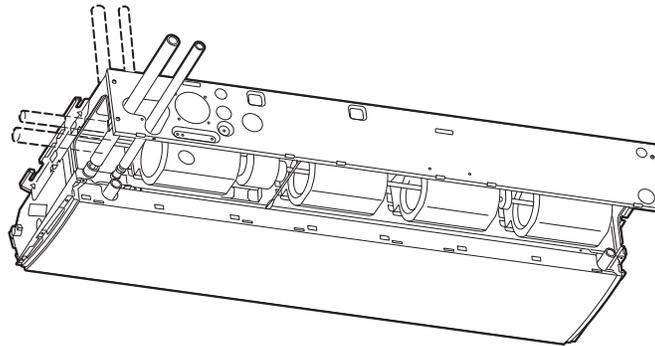

Fig. 3-145
- \* If the drain hose is routed through the left side, refer to Fig. 3-145, and follow the procedure above to install the hose. Re-attach the rubber stopper that was earlier removed onto the right side. (Fig. 3-148)